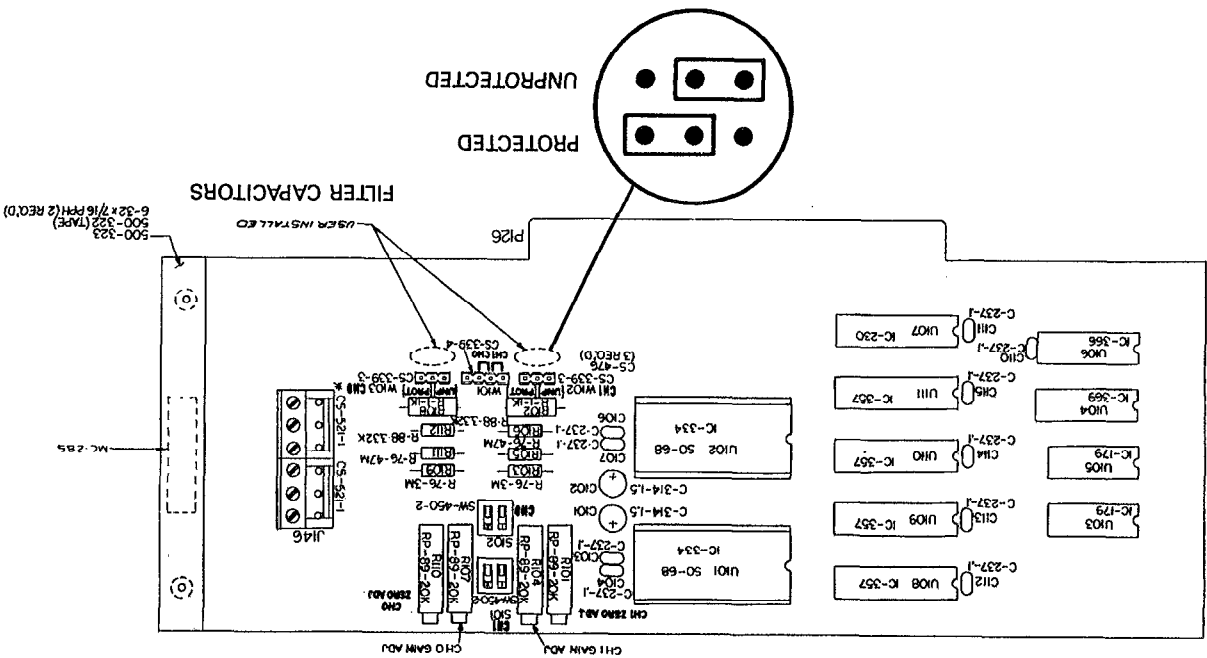

Figure 4. AOM2 Module Calibration Adjustments
4. Run the program and follow its instructions. Refer to Figure 4 for adjustment locations. Make sure the output range of the module is set correctly. The program will prompt with the correct range switch settings.